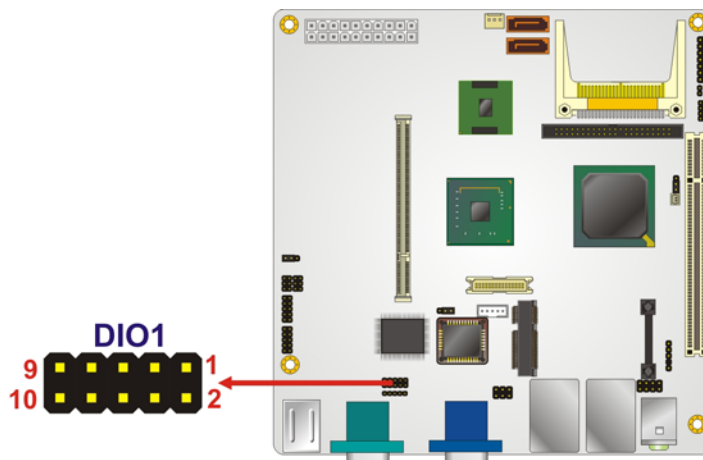

Figure 4-6: Digital I/O Connector Locations
- CN Location:** See Figure 4-6